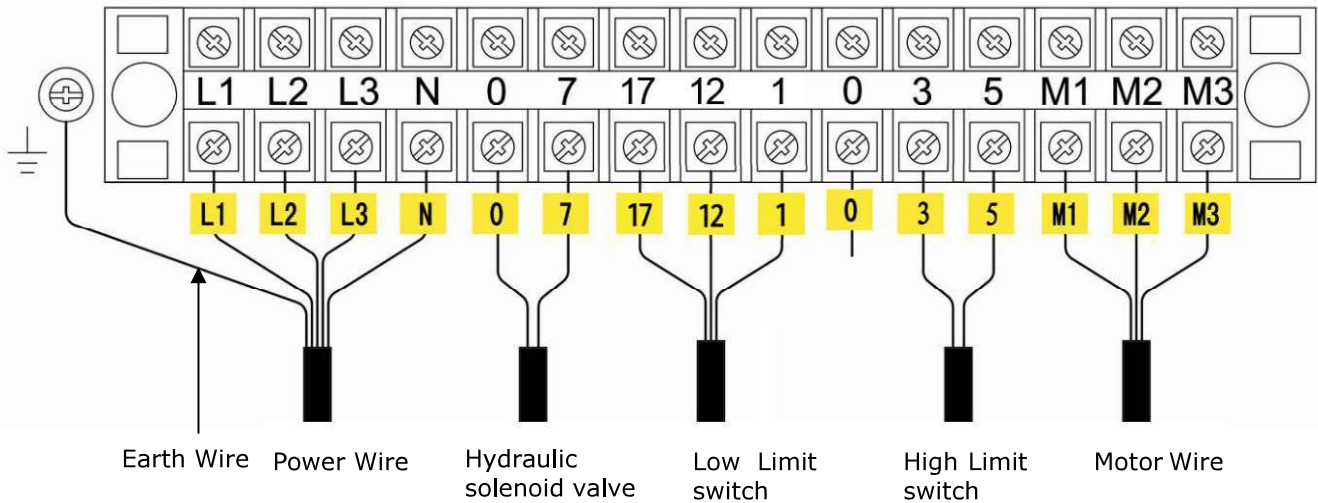

Fig. 12
2.1 Connect the power wire and limit switch wire according to the Wiring diagram (See Fig. 12).